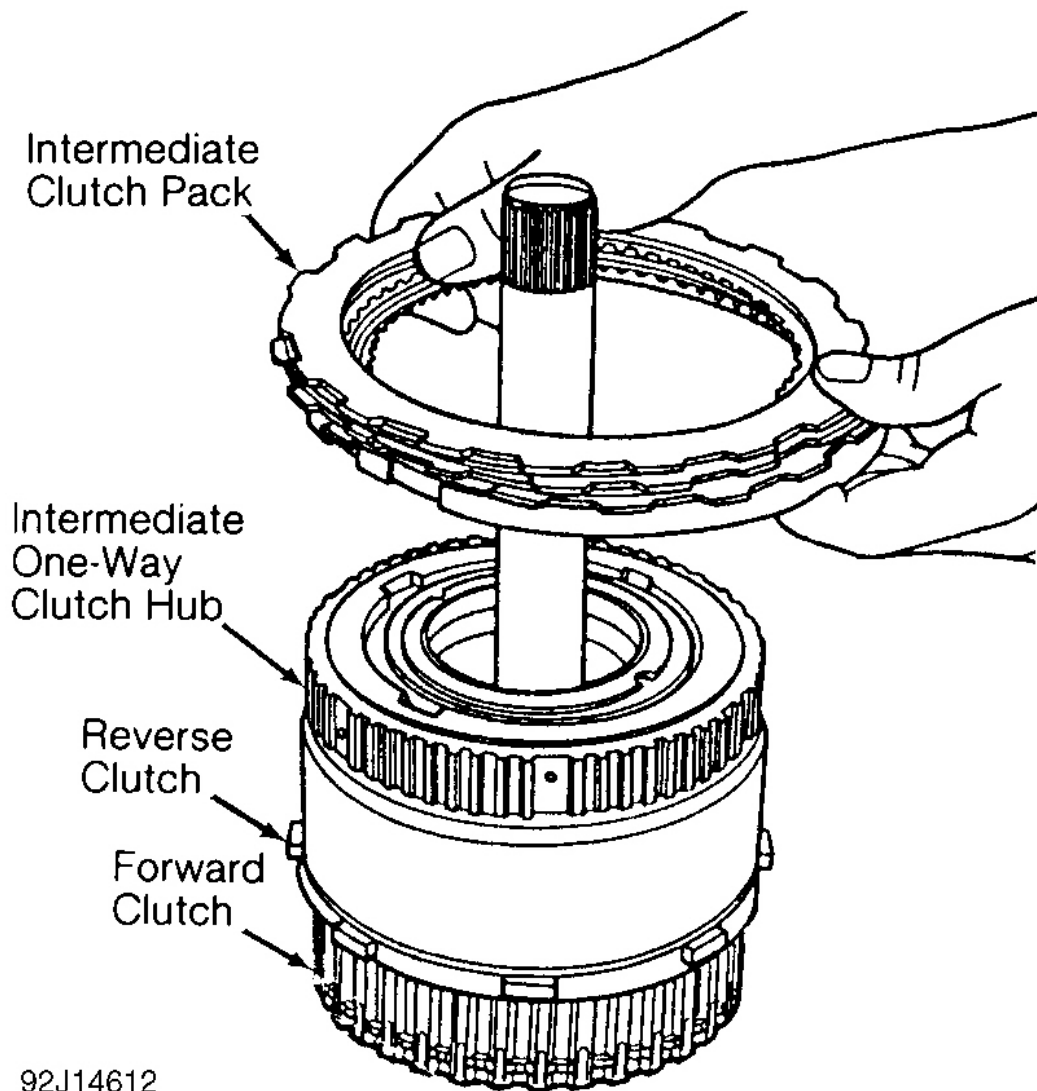

Fig. 29: Separating & Installing Clutch Packs
10. Remove output shaft, ring gear, and direct clutch as an assembly through front of case. Remove output shaft No. 9 needle bearing from rear of case. Remove intermediate clutch pack from one-way clutch. Remove reverse clutch assembly from forward clutch assembly. See **Fig. 29** .